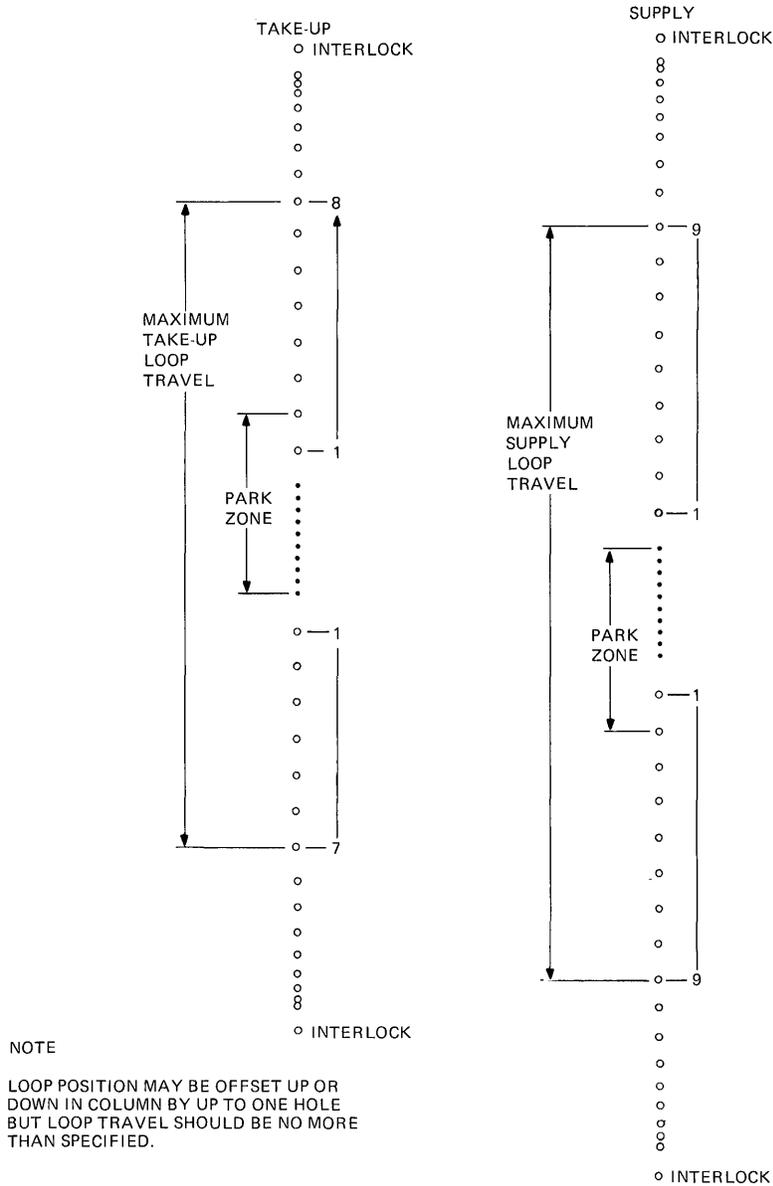

Figure 3-13 Loop Travel Limits
34. Fine tune the position (R9) and gain (R31) potentiometers so the take-up loop matches the boundaries shown in Figure 3-13. The position potentiometer moves the loop excursion up and down in the column.